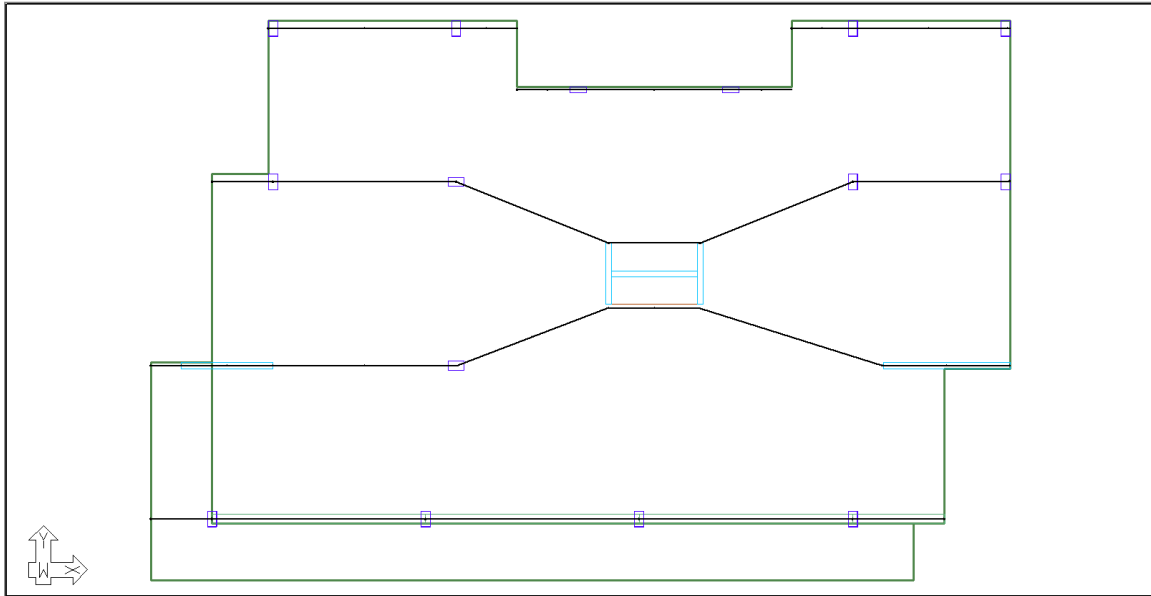

FIGURE 9-18
- Using the mouse select and move the points that coincide with the wall off the wall edge in the middle of the slab, like that shown in **FIGURE 9-18**.